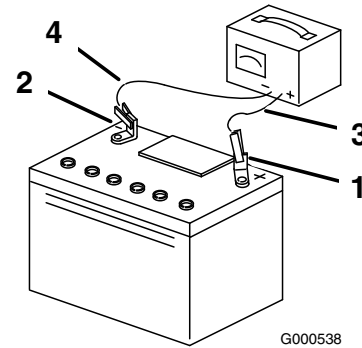

Figure 34
4. When the battery is fully charged, unplug the charger from the electrical outlet, then disconnect the charger leads from the battery posts (Figure 34).